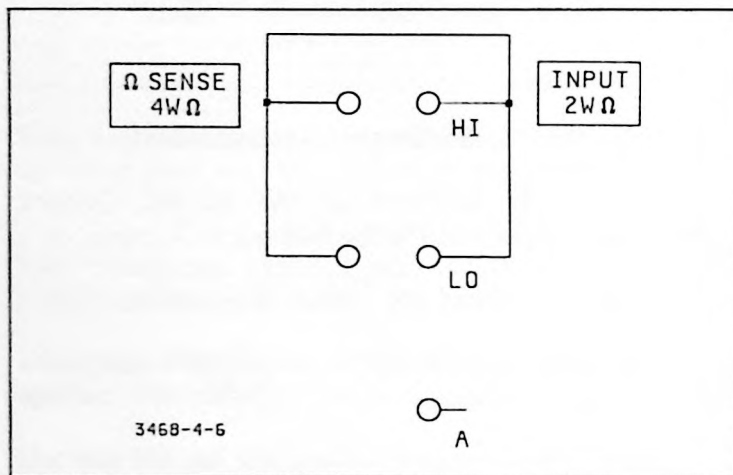
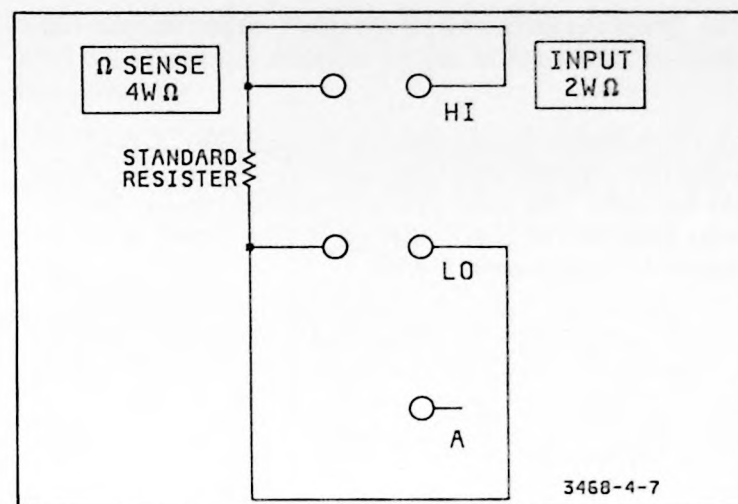

Figure 4-6. 4-Wire Ohms Test Connection
Figure 4-7. 4-Wire Ohms Connections
4-72. If the 3468A/B is to be tested in the 2-Wire Ohms Function, all test resistors are applied to the 3468A/B's INPUT Terminals. If the 4-Wire Ohms Function is to be tested, short the INPUT Terminals or connect the test resistors as shown in Figure 4-6 and Figure 4-7, respectively.
b. (Step #2.) Set the 3468A/B to the desired Ohms Function (see paragraph 4-70). If the 2-Wire Ohms Function is to be tested, short the INPUT Terminals. If the 4-Wire Ohms Function is to be tested, short the SENSE Terminals and the INPUT Terminals, as shown in Figure 4-6. Check the reading on the 3468A/B's display and record the reading on the Test Card.
e. Connect either a 300 $\Omega$  or 100 $\Omega$  Standard Resistor to the INPUT Terminals (refer to paragraph 4-71 to determine the resistor value). If the 3468A/B is to be tested in the 2-Wire Ohms Function, connect the resistor to the INPUT Terminals. If the test is to be done in the 4-Wire Ohms Function, connect the resistor as shown in Figure 4-7.